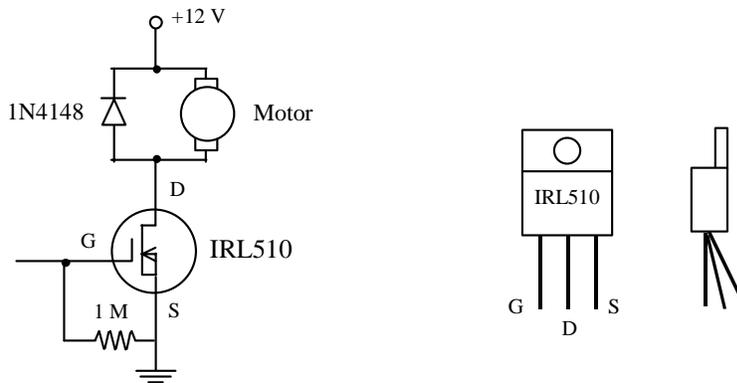

Figure 1 DC Motor Driver Circuit. The circuit uses an IRL510 power MOSFET. MOSFET's are very static sensitive, so handle them by the metal tab.
- Build the circuit shown in Figure 1. Don't forget the diode. **Important note:** MOSFET's are very sensitive to static electricity. Make sure that you are not carrying static charge before you handle these devices. It is best to work on a properly grounded anti-static surface with an anti-static bracelet on your wrist. If these precautions are not available, then discharge yourself by touching a grounded metal surface (such as the frame of the bench) before you handle a MOSFET. Always handle a MOSFET by its large metal tab and by its leads.
The MOSFET you will be using in this lab is the IRL510. It is a power MOSFET that is fully “on” when the gate to source voltage, V_{GS} , is 5 V, which is the nominal voltage level for a ‘high’ digital output. (Note: most power MOSFET's don't turn on fully until V_{GS} is about 10 V. Keep this in mind in your project work.) Its package style is an industry standard TO-220. This package is somewhat awkward to use in a solderless breadboard, because its leads are so large. To avoid damaging the solderless breadboard, insert the IRL510 so that its metal tab is **parallel** to one of the 5-hole rows, but with each lead in a separate row. To do this, you will have to bend the leads slightly (see Figure 1).